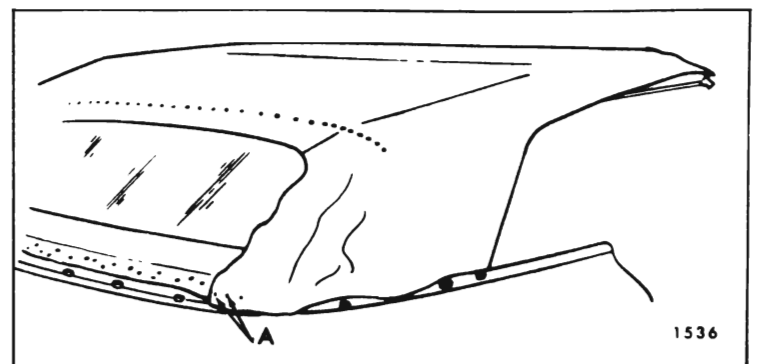

Fig. 6-26—Tacking Top Material
NOTE: The deck seam mark will vary slightly ($\pm 1/4''$) depending upon position of rear roof bow. Also check centerline mark on inner lining of top material. Mark should correspond to centerline mark on rear roof bow. (See Fig. 6-26).
38. Using previously marked lines (ends of trim stick) as locating reference, tack top material to rear and rear quarter trim sticks. "A" in Figure 6-26 shows top material installed to rear trim stick at inboard edge.